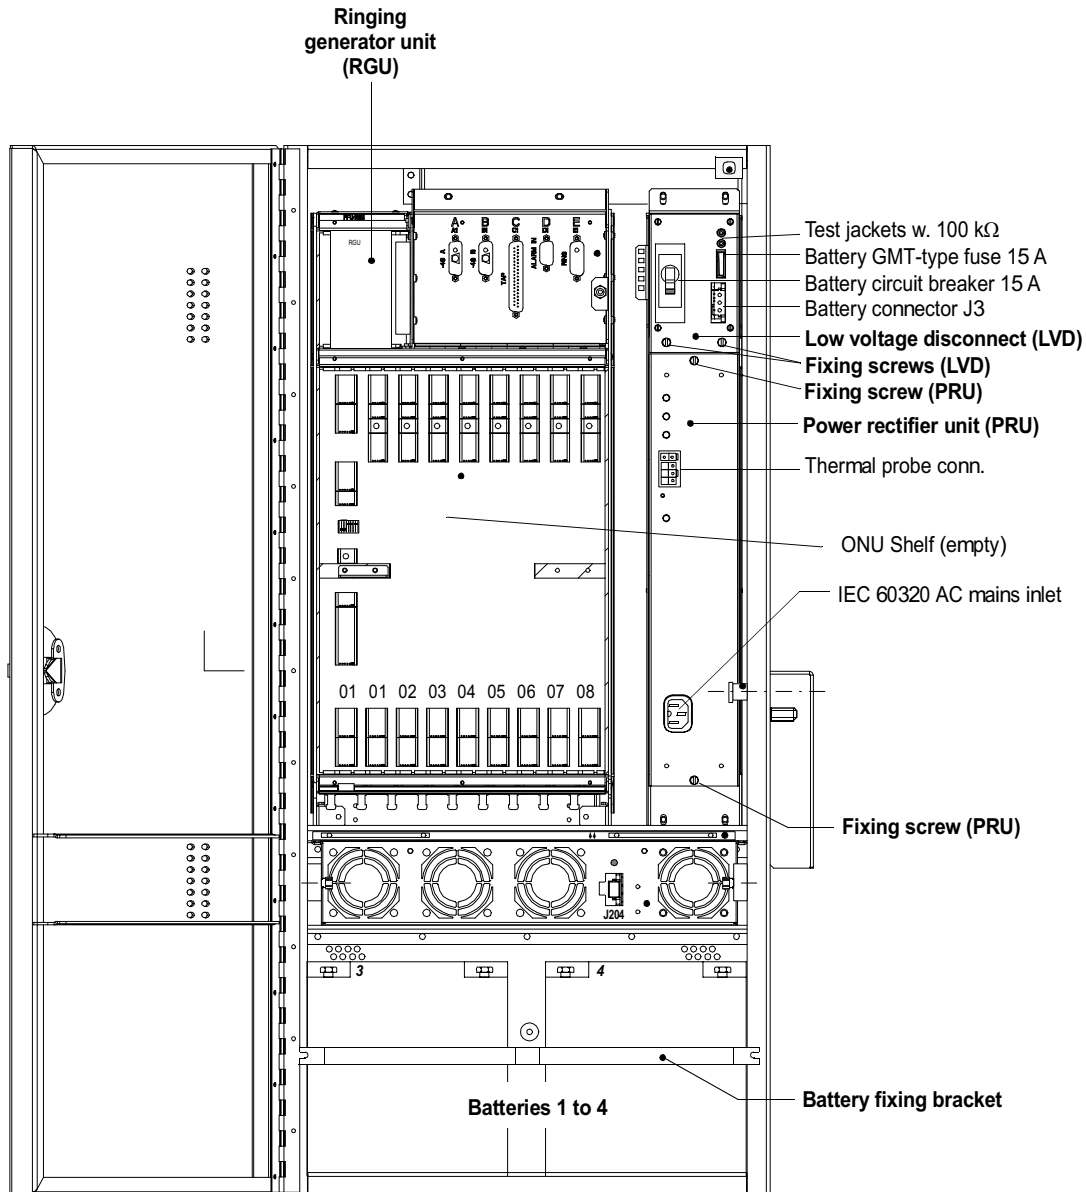

Figure 8-1 ONU with LVD, PRU, RGU and empty ONU shelf
- Step 1. If an LVD is installed, ensure that the battery circuit breaker is switched OFF. Refer to Figure 8-1 on page 8-2 for the location of the LVD.
- Step 2. If a PRU is installed, ensure that the AC power cord is not connected. Refer to Figure 8-1 on page 8-2 for the location of the PRU.
- Step 9 Verify that the connector J3 on the rectifier side is not connected. For location of the LVD and the other parts see Figure 8-1 on page 8-2.
The next three sections explain how to install the power rectifier unit (PRU), low voltage disconnect (LVD) and ringing generator unit (RGU) modules in their assigned shelf positions, as illustrated in Figure 8-1. The ordering codes for these modules are listed in Table 8-1.
Step 4 Slide the PRU into the lower position of the rectifier shelf, as shown in Figure 8-1. Push the PRU into the shelf and tighten the two fixing screws on the top and bottom of the faceplate.
Step 4 Slide the LVD into the upper position of the rectifier shelf, as shown in Figure 8-1. Push the LVD into the shelf and tighten the left and right fixing screws on the bottom of the faceplate.
- Step 3 Slide the RGU into the upper position of the ONU shelf with the printed board to the right, and push the RGU into the shelf. See Figure 8-1 for the RGU shelf position.